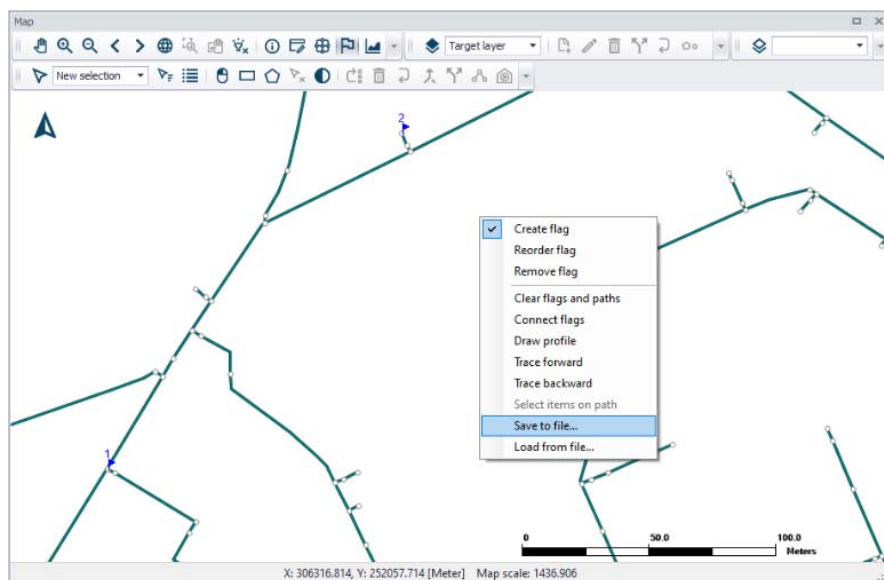

Figure 20.30 Set flags defining the path of the profile plot on the model map
- Click on the starting location for the profile path. Flags can be set on nodes, junctions, and rivers. This will place a small flag at the selected location along with the number of the flag (Figure 20.30).
- Continue setting flags on the map until the path is well-defined. The horizontal plan will then look as seen in Figure 20.30. You may save the set flag information using the 'Save to file...' option from the local context menu. The path information is saved to a *. PATH file, which can be loaded in another session via the 'Load from file...' option.